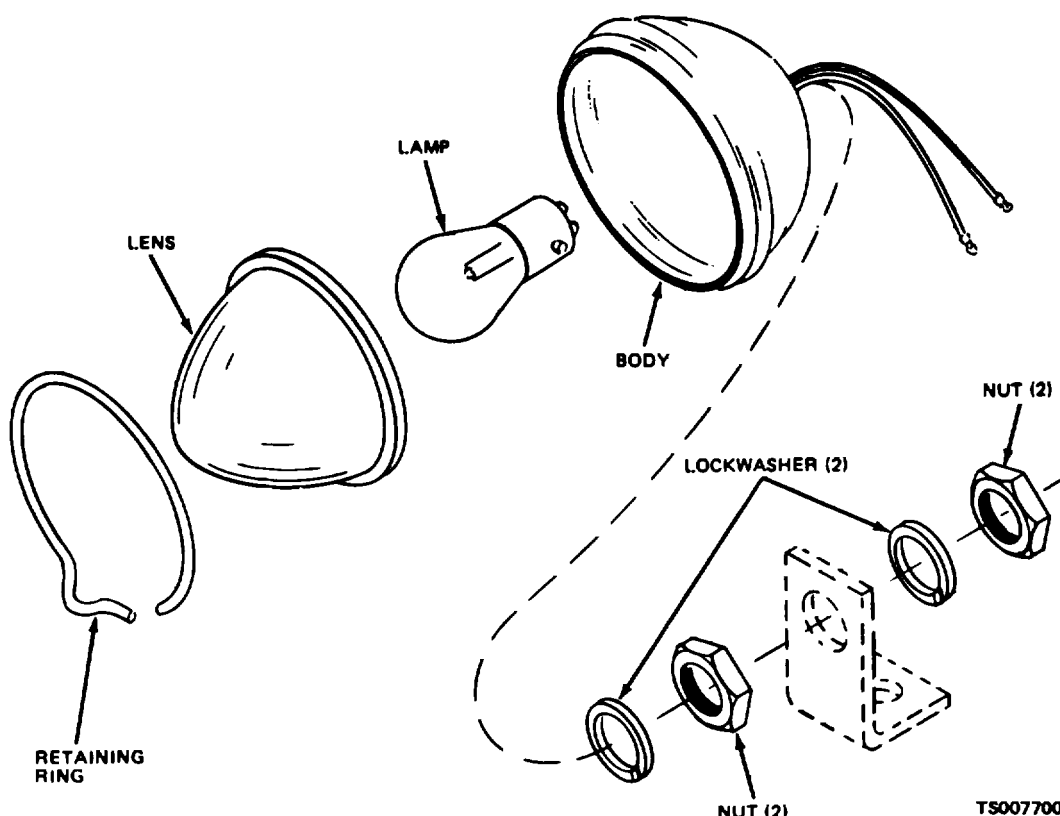

Figure 4-27. Taillight, Disassembly and Reassembly
(2) To replace the taillight lamp, remove the retaining ring (fig. 4-27) and lens from the body. Push in on the lamp and give it a one-quarter turn
(2) Remove and disassemble the taillight as shown in figure 4-27.
(2) Reassemble and install the taillight as shown in figure 4-27.